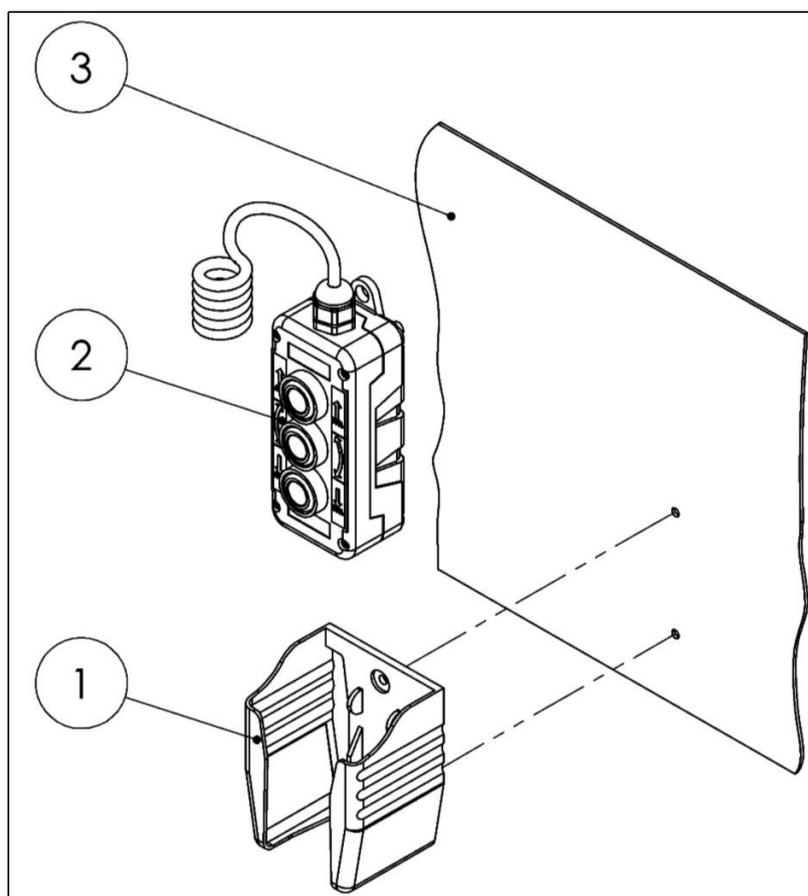

Figure 23
- Mount the bracket (1) for the Handheld control (2) on the vehicle wall (3) using, for example, 2 screws or adhesive (see Fig. 23).